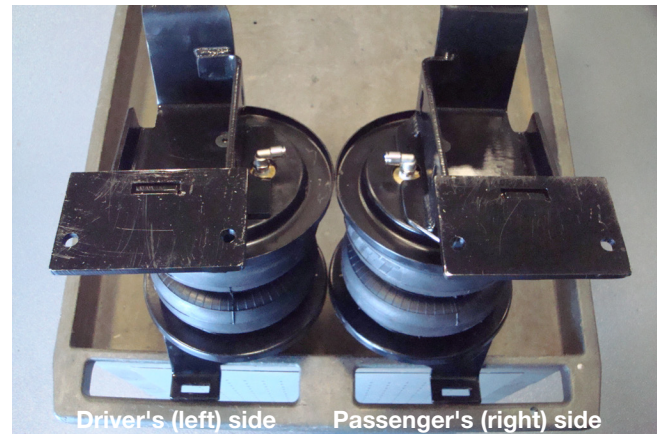

Fig. 13
4. Fig. 13 shows driver's (left) and passenger's (right) side assemblies.